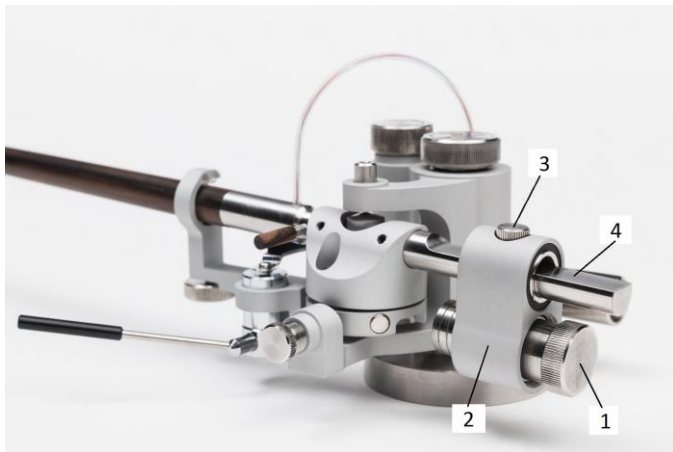

Figure 11
3. Vertical Tracking Force (VTF) adjustment (Figure 11)